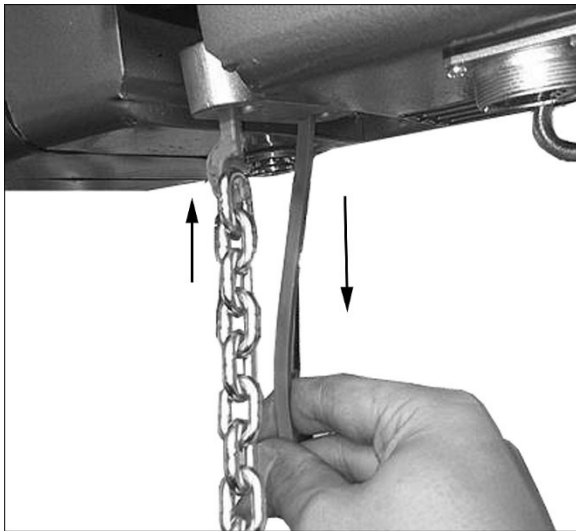

Figure 13-3
7. Connect hook of chain puller to the link on new chain (Figure 13-3), and pull chain through until it engages the sprocket. **Do not let the chain twist or bind as it is being pulled through the hoist.**
7. Connect hook of chain puller to the link on new chain (Figure 13-3) and move chain through until sprockets are engaged.
The link on the load side end must be a vertical link, as shown in Figure 13-3. If it is a horizontal link, the chain will have a twist in it.